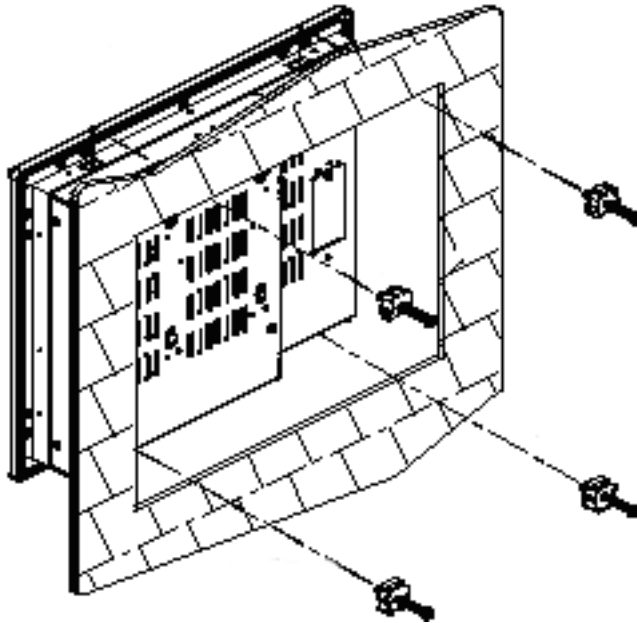

Figure 5-9: Insert the Monitor
Step 3: Slide the monitor through the hole until the metal frame is flush against the panel (**Figure 5-9**).